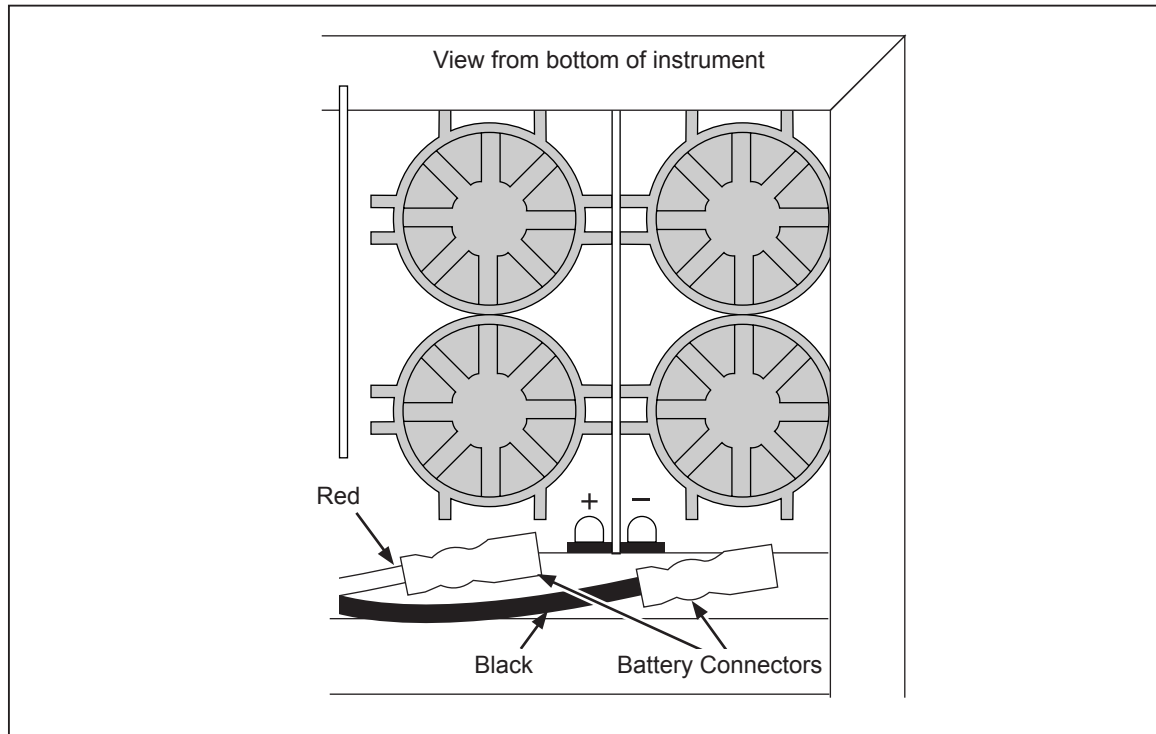

Figure 7-6. Unplugging the Battery Pack Connectors
1. With the Battery Pack Option installed in the meter and with the meter disconnected from line power, unplug the battery connectors from the battery + and - terminals (Figure 7-6).